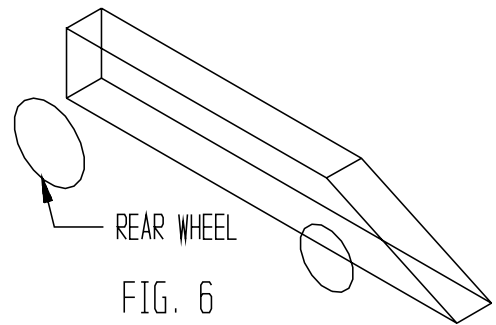

FIG. 6
Step 6. In the Isometric View, click on **rear wheel, Fig. 6** and press ENTER.